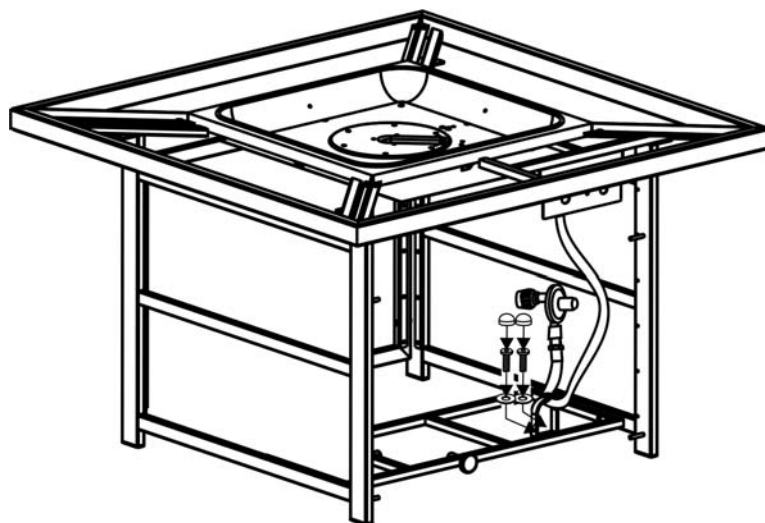

Figure 5
5. Secure the regulator hose to the middle support by using two 1/4"x15 mm bolts and $\text{\O}6.5\times1.0$ mm washers as shown in Figure 5. Guide the bolts through the holes in the metal plate, into the pre-drilled holes in the middle support. **Hand tighten only.**